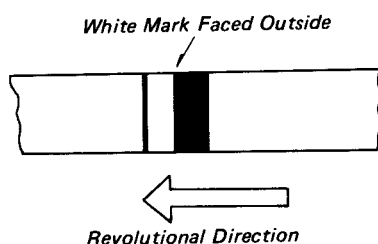

Fig. 5-132 Flat Belt
- 2:- Each flat belt should be installed with the white mark facing outside and the arrow indicating the revolutional direction as shown in Fig. 5-132.